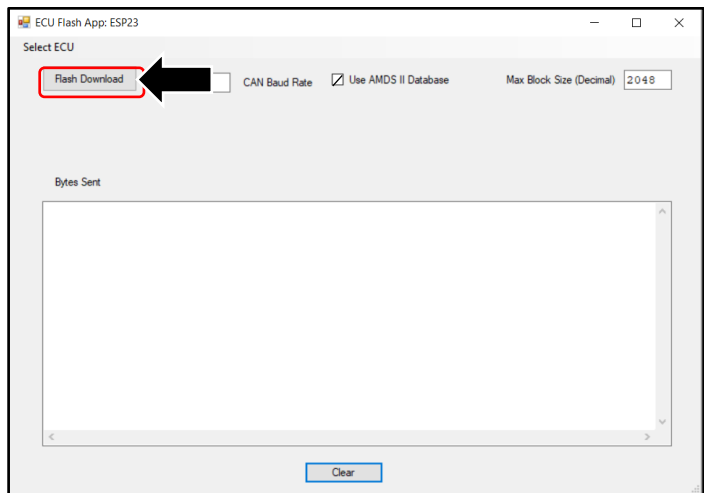

Figure 4
7. Click the "Flash Download" button (refer to Figure 4).